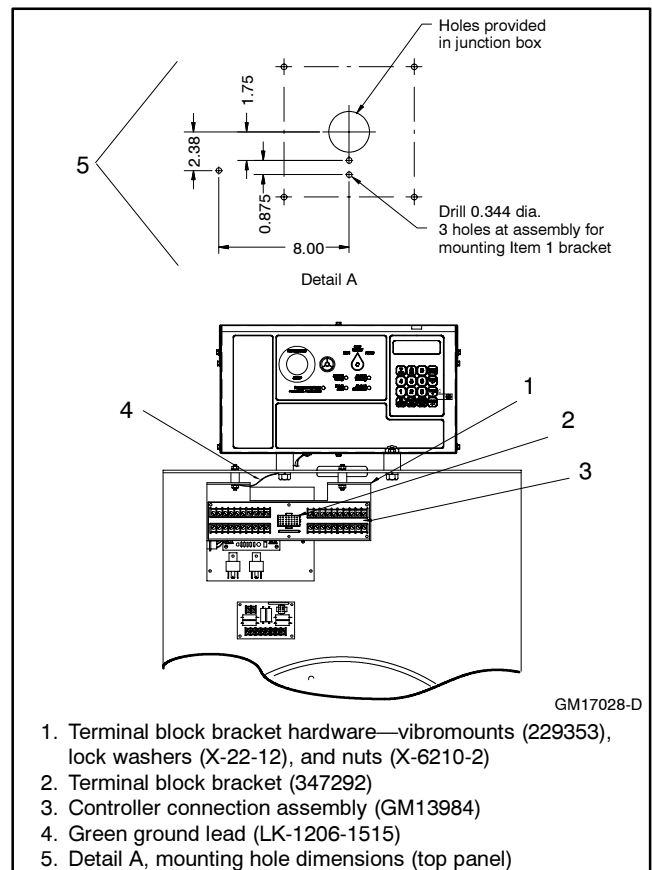

Figure 3 Terminal Block Bracket and Controller Connection Assembly Mounting (350/400 kW)
- 2.2.2 Remove the four screws attaching the controller to the junction box. See Figure 3.
- 2.2.3 Mark the drill hole locations where the terminal block bracket (347292) mounts to the junction box top panel using the dimensions given in Figure 3.
2.2.6 Attach three vibromounts (229353) to the terminal block bracket (347292) using three lock washers (X-22-12) and nuts (X-6210-2). Attach one end of green ground lead (LK-1206-1515) between terminal block bracket and nut. See Figure 3.